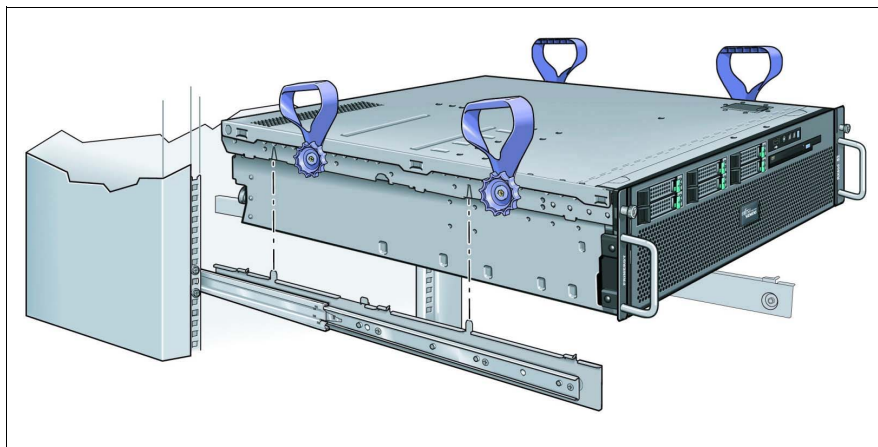

Figure 5: Lifting the server off the telescopic rails
- ▶ Undo the knurled screws (1) and pull the server carefully out of the rack (2) until the telescopic rails click into place.
- ▶ In order to assure safe handling, mount the blue handles originally delivered with the system and rotate them in upstanding position (see figure 5).